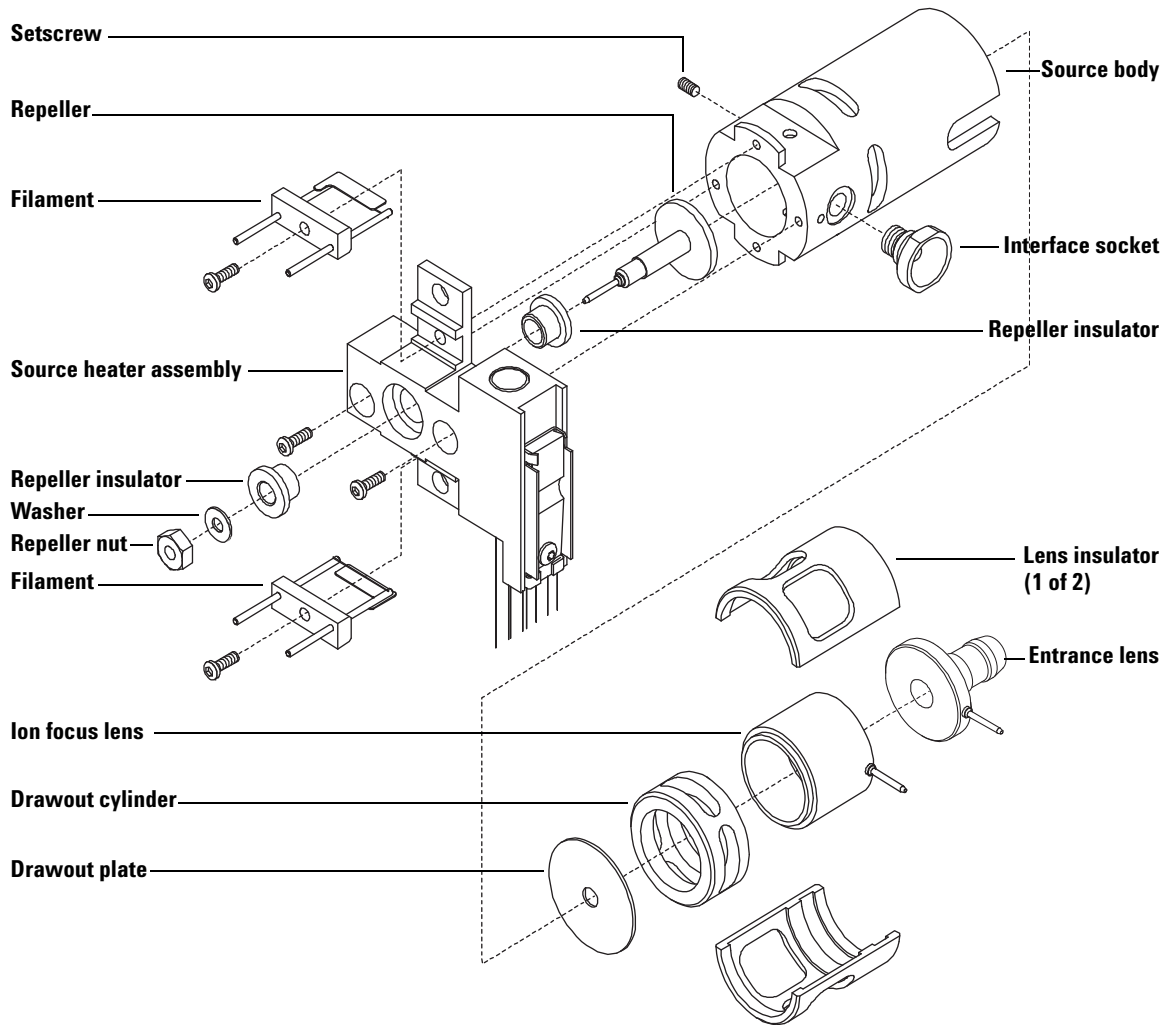

Figure 12 Disassembling the EI ion source
- 2 Remove the filaments (Figure 12).